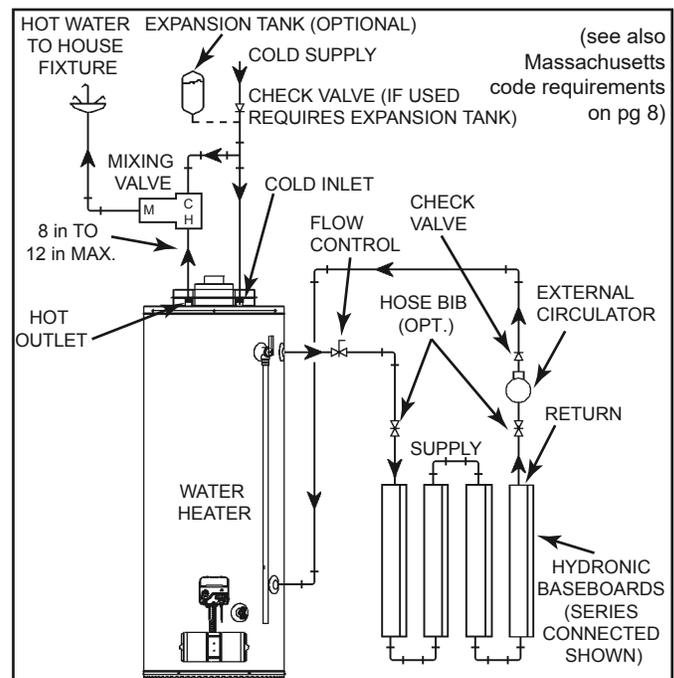
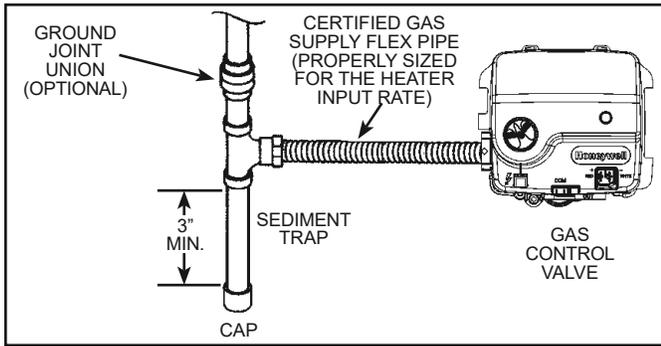

Figure 11
Figure 12
8. “Combo” Heating Systems require higher water temperatures than other applications. When the system is used to supply water for Combo Heating applications, a means, such as mixing valves at each point-of-use, must be installed to temper the water in order to reduce scald hazard potential (see Figure 11 & Figure 12).
- A. A fan coil/air handler (Figure 11).
- B. A hydronic baseboard (finned tube) loop/In floor heating (Figure 12).